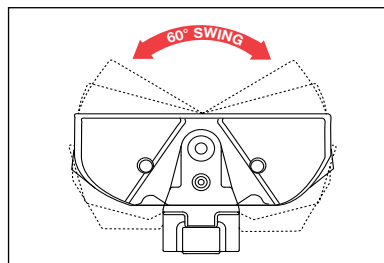

Figure 3
- A. The Swivel-Lock Head has a full 60° range of free swivel. This is useful for matching patterned carpet. (See figure 3.)